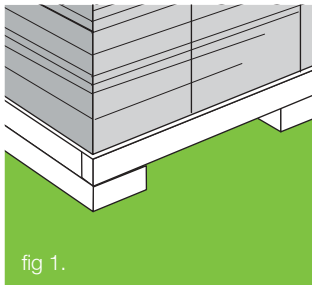

fig 1.
- **COVERED** on a pallet and must not be stored directly on the ground (figure 1)
- **STORED** flat and above ground (figure 1).